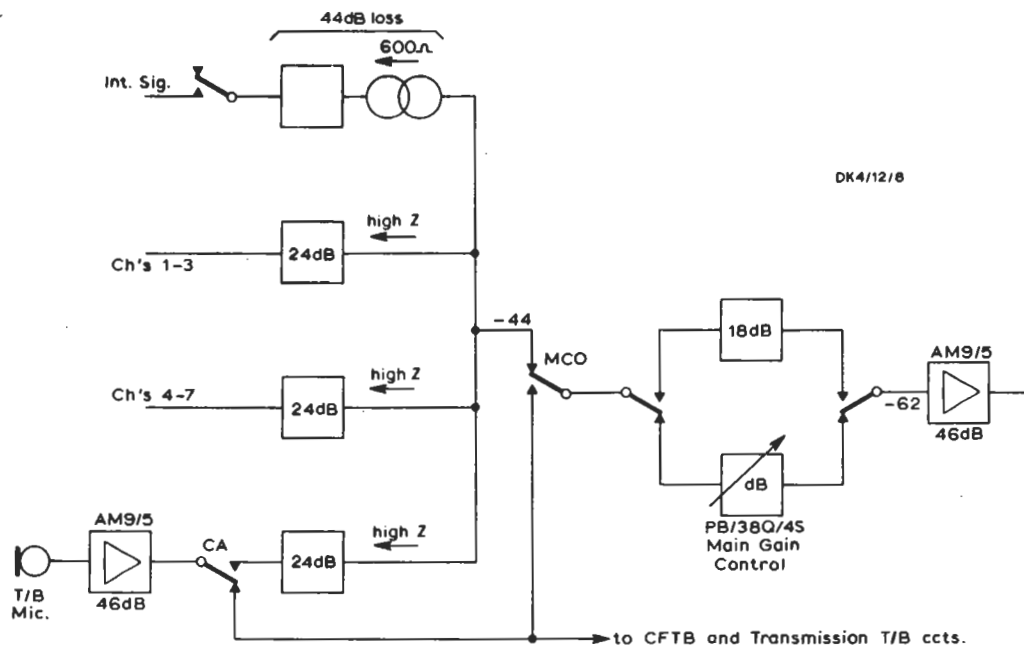

Fig. 8. Main Chain
The Main Chain (Fig. 8)
**Talkback (Figs. 8, 12 and 14)**
At Bush House, the talkback microphone is also used for announcements which precede foreign-language transmissions. When the Cub. Mic. key is operated, the talkback amplifier output is routed via relay CA (Fig. 8) to the main chain.